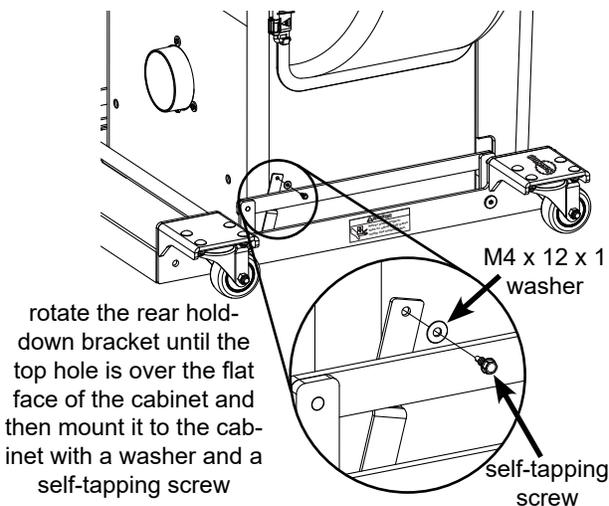

Fig. 9a
9. Locate the two self-tapping screws and the two M4 x 12 x 1 washers. Some cabinet configurations will have pre-drilled holes for the self-tapping screws. If your saw cabinet does not have pre-drilled holes, or you are having difficulty aligning the holes, rotate the rear hold-down bracket until the top hole is over the flat face of the cabinet. Place one of the M4 x 12 x 1 washers over the end of one of the self-tapping screws and use a drill with a 1/4 inch hex drive bit to mount the rear hold-down bracket to the cabinet, as shown in Fig. 9a. There is no need to pre-drill a hole for the self-tapping screws, but be careful not to overtighten the screws or the threads in the cabinet may strip out. Now, rotate the front hold-down bracket until it is vertical and repeat the same procedure to mount it to the cabinet, as shown in Fig. 9b.